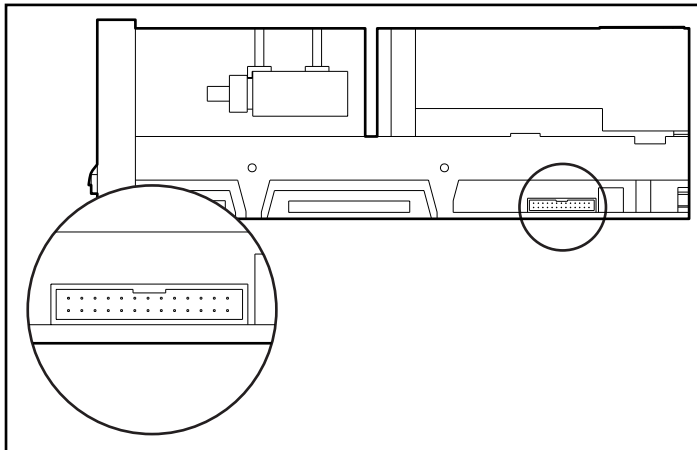

Figure 2-4: Locating the SCSI ID jumpers
2. Locate the SCSI ID jumpers as shown in Figure 2-4. Use a pair of needle-nose pliers to set the jumpers to the desired SCSI ID.